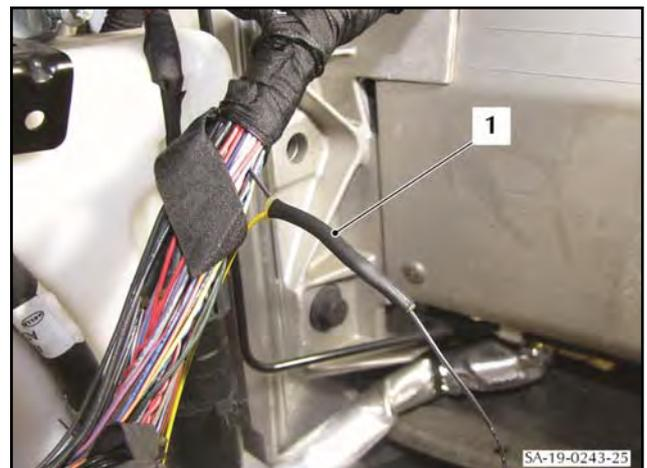

Figure 62
79. Move the heat shrink tube along wire to cover the joint (refer to Figure 62).
80. Use an applicable tool to shrink the heat-shrink tube (1) to protect the joint.